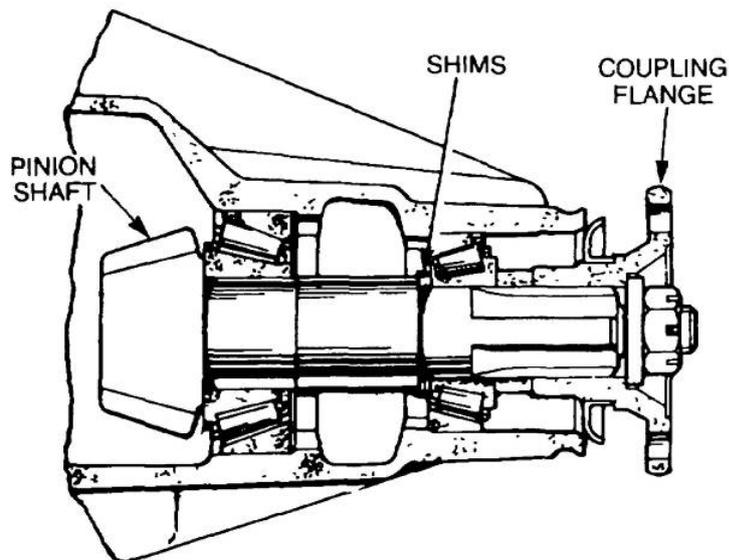

Figure 259 Adjustment of the Pinion Shaft Pre-load
- m.** Slide the original shims onto the pinion shaft and insert the shaft in the differential carrier. Install the outer bearing cone and spacer and fit the coupling flange and nut (Figure 259). Do not install the oil seal at this stage.